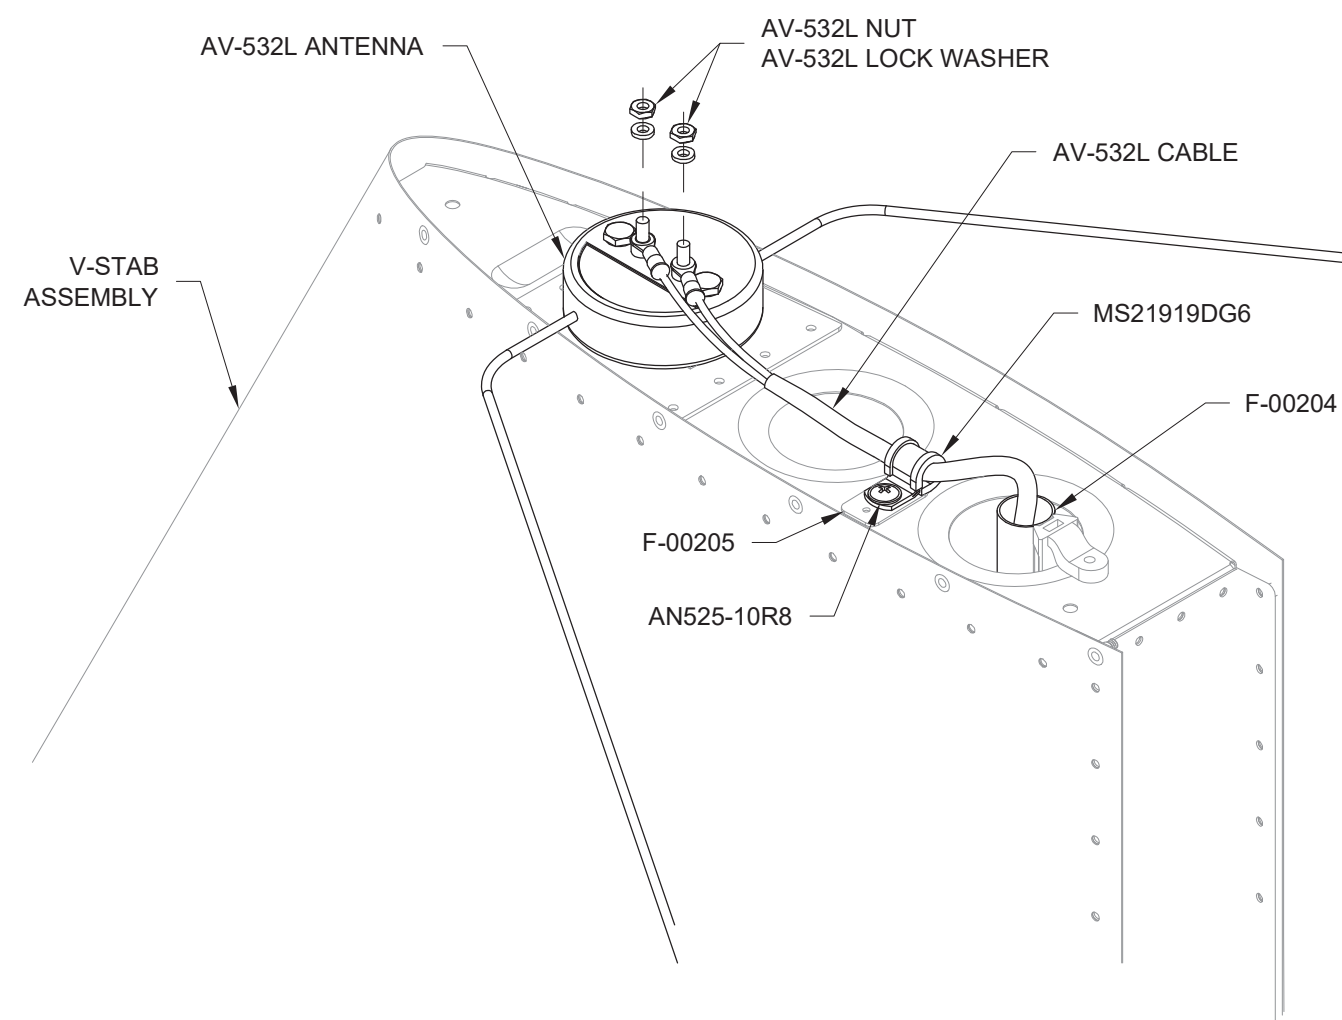

FIGURE 2: CONNECTING THE AV-532L CABLE
Step 2: Connect the ring terminals on the end of the AV-532L cable onto the studs of the AV-532L antenna with the included fasteners as shown in Figure 2.
Step 3: Clasp the cushion clamp over the AV-532L cable and secure the cushion clamp to the F-00205 relieving any strain on the ring terminals. See Figure 2.